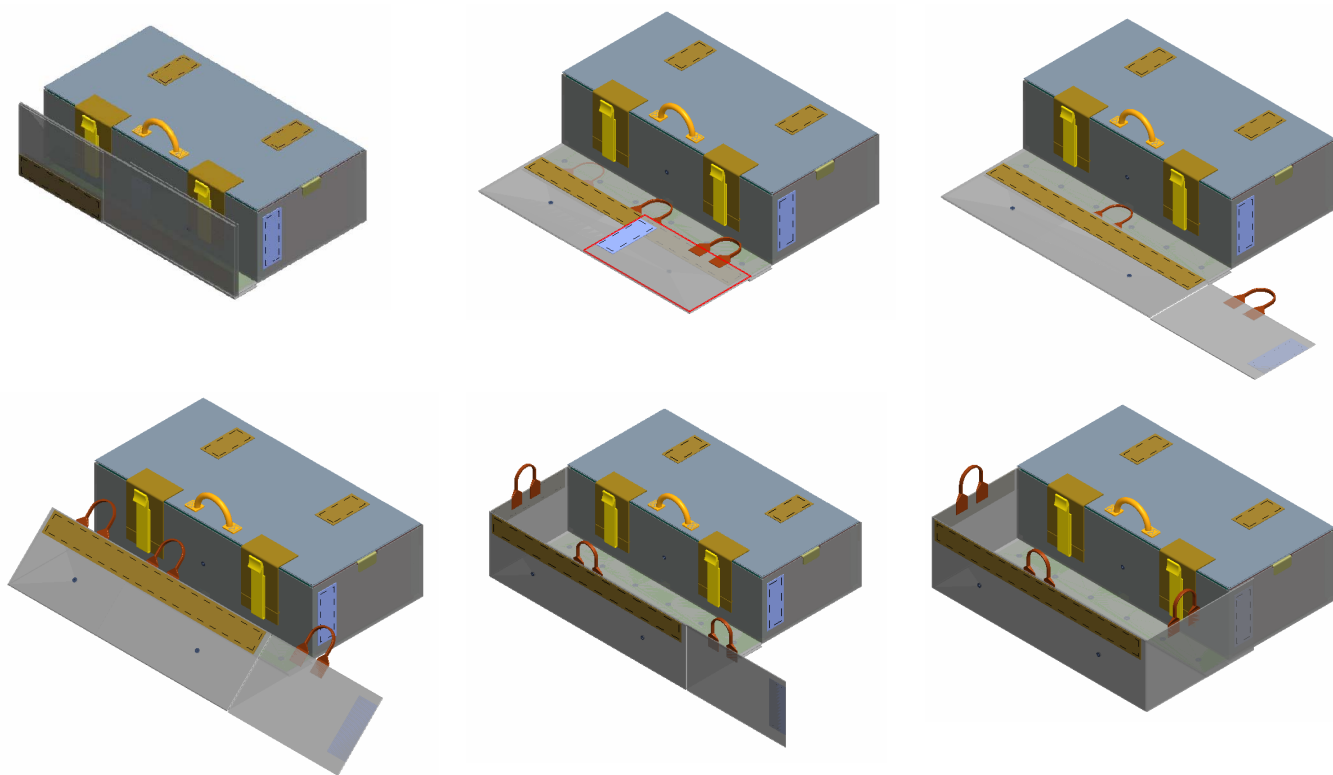

Figure 2.- Folding sequence of DTO insert (not shown in Sample Bag)
2. Remove Tool Pedestals (3) from side of DTO insert; temp stow
3. Unfold DTO insert and assemble per figure 2